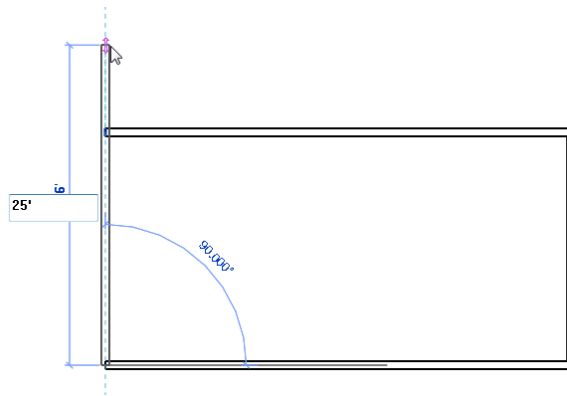

Figure 3-38 Sketching the fourth exterior wall segment
6. As you have enabled the **Chain** option, the next wall segment automatically starts from the last specified point. Move the cursor vertically upward and enter **25' (7620 mm)**, as shown in Figure 3-38, and then press ENTER. The fourth wall segment is created.